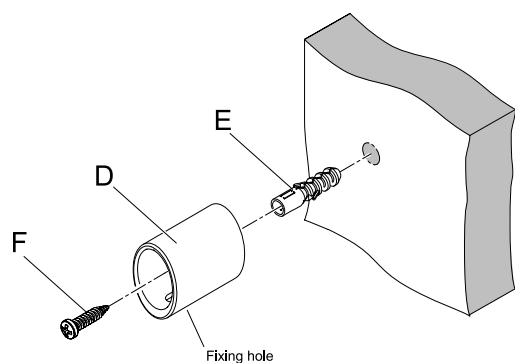

Fig. 4
2. Drill and plug (E) the wall to suit. Fix the outer wall bracket sleeve (D) to the wall using the screws provided (F). Ensure to align the bracket so that the fixing hole is accessible once the towel rail is fitted - see Fig. 4.